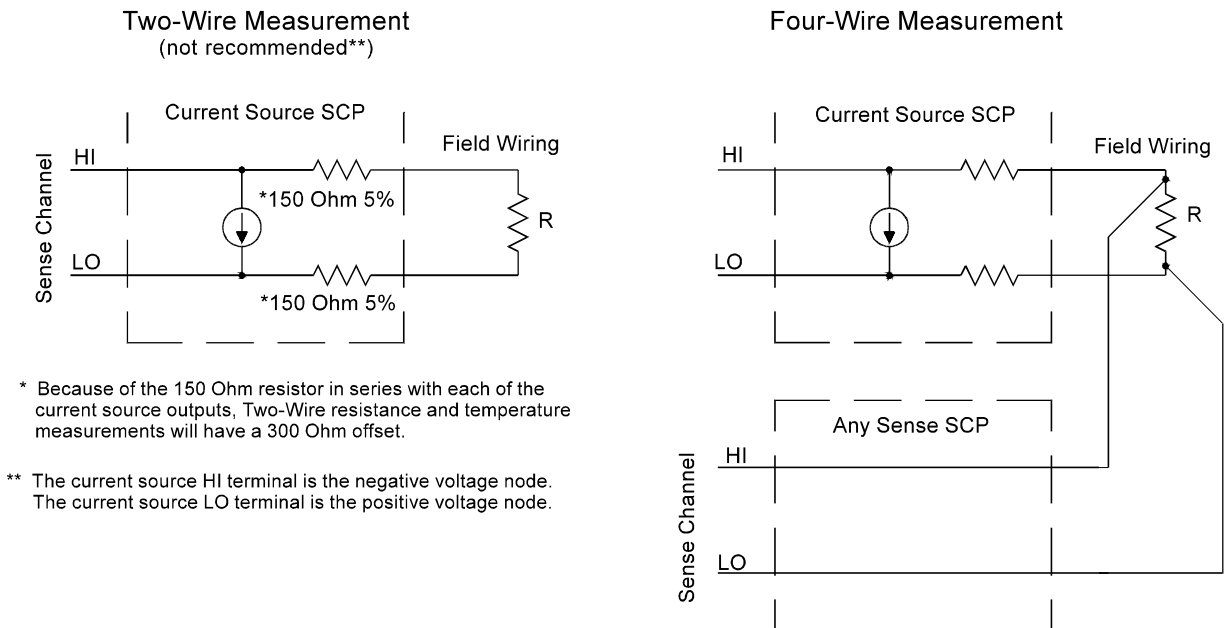

Figure 3-6 Resistance Measurement Sensing
Resistance measurements assume that there is at least one Current Source SCP installed (eight current sources per SCP). See Figure 3-6.
- The *ch_list* parameter specifies which channel(s) to link to the resistance EU conversion. These channels will sense the voltage across the unknown resistance. Each can be a Current Source SCP channel (a two-wire resistance measurement) or a sense channel separate from the Current Source SCP channel (a four-wire resistance measurement). See figure 3-6 for diagrams of these measurement connections.
Temperature measurements using resistance type sensors involve all the same considerations as resistance measurements discussed in the previous section. See the discussion of Figure 3-6 in "Linking Resistance Measurements".